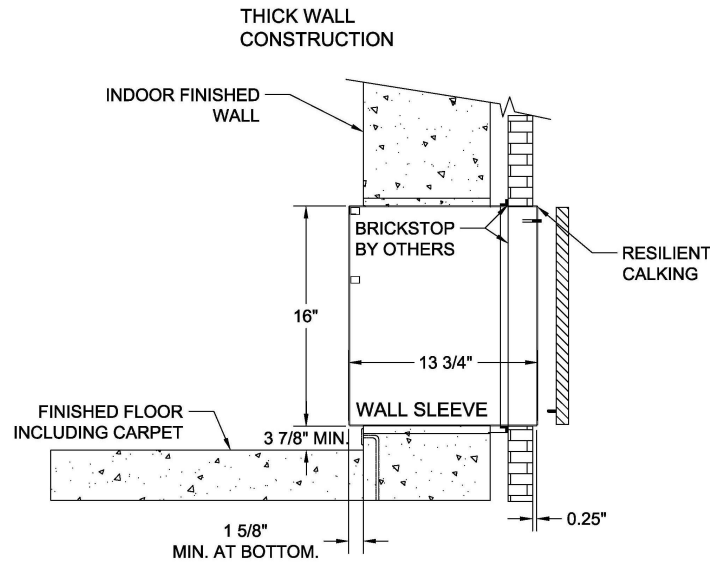

Figure 2
3. Place a thin pad of mortar on the bottom of the opening. **IMPORTANT:** Make certain the wall sleeve protrudes into the room a minimum of 1 5/8" (41mm) at bottom beyond the finished wall surface to accommodate the heat section and room cabinet. Push the sleeve through the wall opening so that a minimum of 1/4" (6mm) projects past the outside wall. This will provide a fillet area for caulking (refer to figure 2)
4. If a brick stop is employed (by others) slide the wall sleeve into the wall so that it extends into the room a minimum of 1 5/8" (41mm) at bottom beyond the finished interior wall surface. This allows room to attach the heat section and room cabinet. It should also allow for a minimum of 1/4" (6mm) to project past the outside wall. This will provide a fillet area for caulking (refer to figure 2).